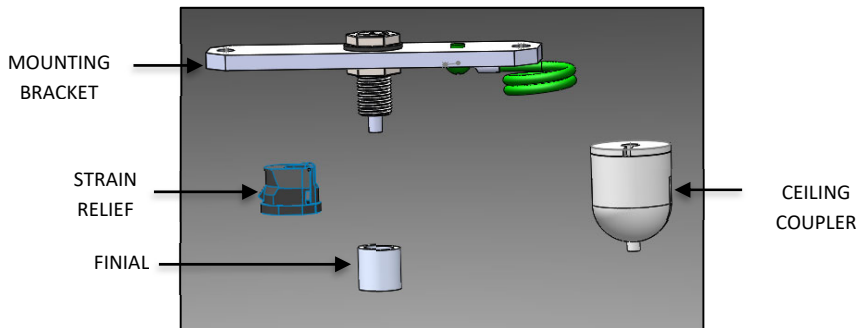
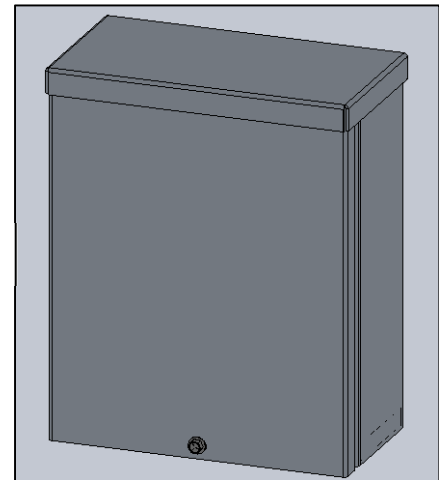

FIG. 4 - MOUNTING KIT
FIG. 5 - REMOTE DRIVER BOX WITH DRIVER INSTALLED
- b. MOUNTING KIT (as shown in FIG. 4)
- iv. ONE (1) CEILING COUPLER (CC)
4. REMOTE DRIVER BOX WITH DRIVER INSTALLED (as shown in FIG. 5)